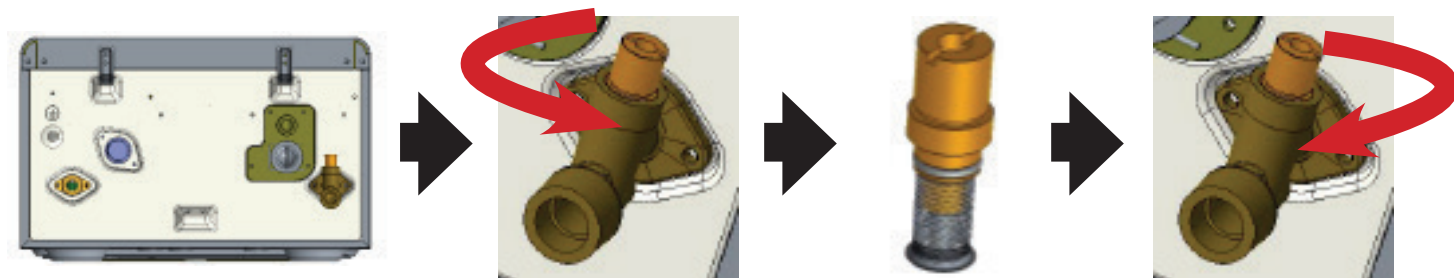

Fig 20.2
2. Take out the filter by turning it counterclockwise. **(See Fig. 20.2)**